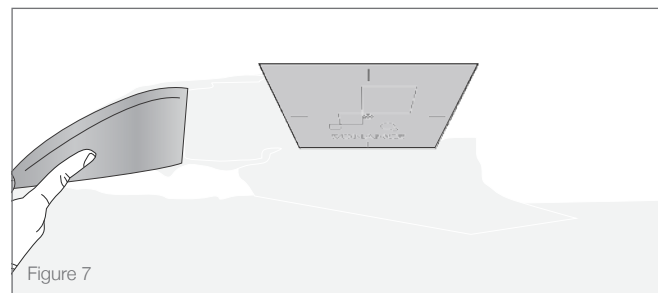

Figure 7
1. Before applying mud, be sure that the sanding shield is still in place securing in the speaker opening. Using quick-set compound, fill all gaps and let fully cure (see Figure 7).